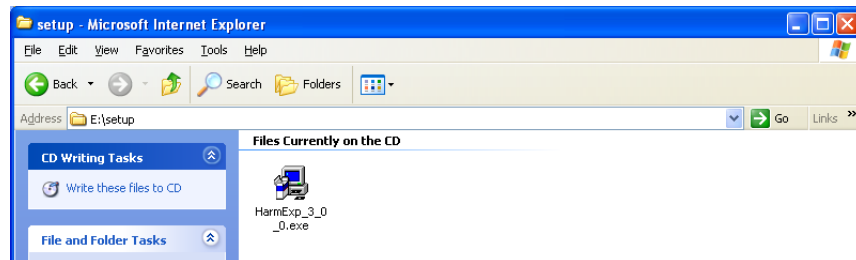

Fig.2-10 Harmonics Explorer installation (Example of HarmExp\_3\_0\_0.exe)
- 21 In the browser window shown in Fig.2-10, click the **Back** button.